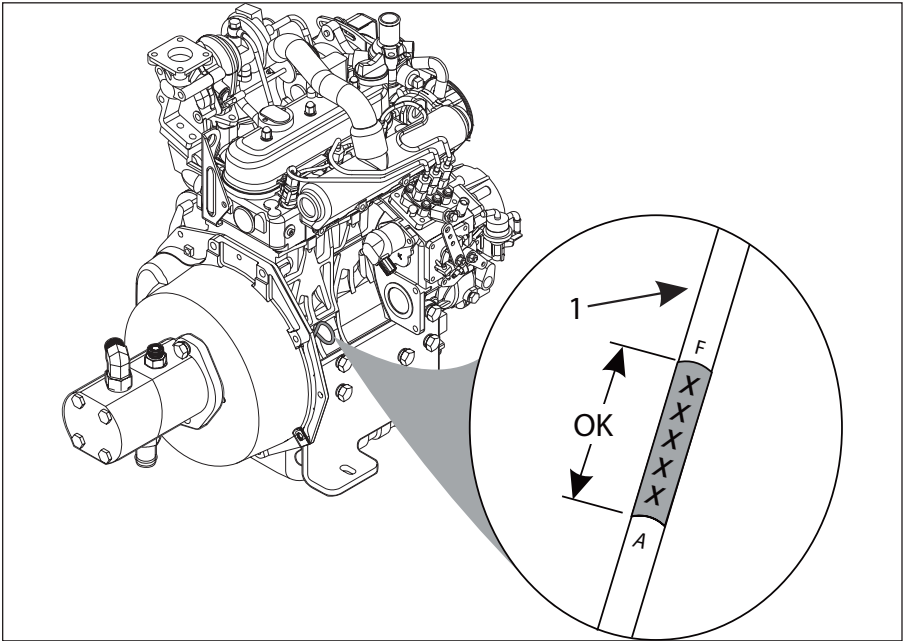

Figure3-1 Engine Oil Level Check
- Pull out the engine dipstick (Item 1, **Figure 3-1**) and check oil level. The correct level is between those two lines.